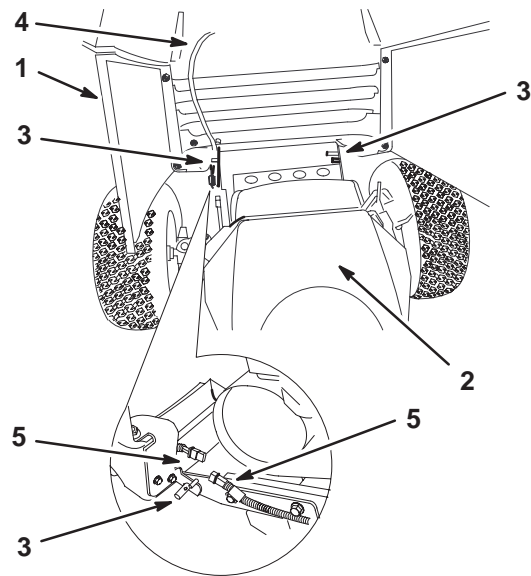

Figure 12
1. Rotate the hood fully forward (Fig. 12).
2. Disconnect the wire harness at the front left of the machine. The harness leads up to the head lights (Fig. 12).
3. Slide the hood to the left side of the machine and off of the pivot pegs (fig. 12).